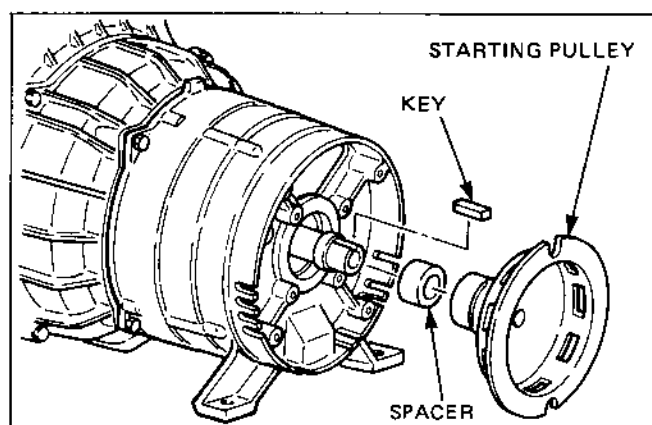

Fig. 10-33
- (1) Remove the through bolt which has been tentatively attached to the rotor.
- (2) Insert the key into the keyway of the rotor shaft. (See Fig. 10-33.)